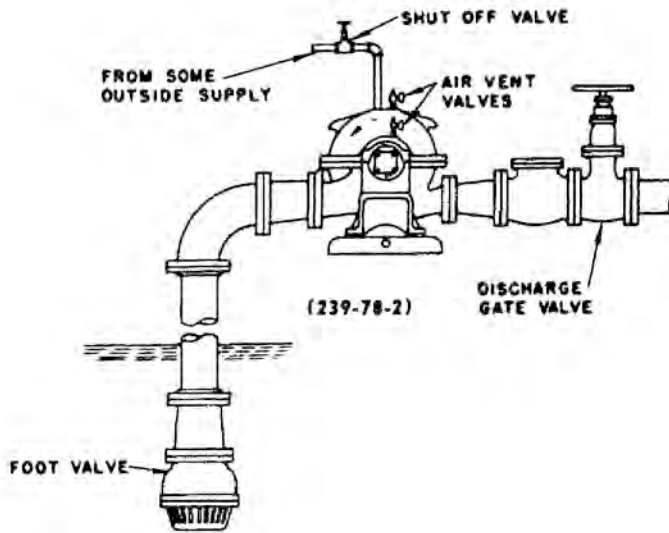

Figure 9:
1. From Some Outside Supply (See Figure 9: on page 22). Close discharge gate valve, open air vent valves and open valve in primary supply line until all air is expelled and water issues from vent openings. Close valve in priming supply line, close air vent valves and start pump; then open discharge gate valve.